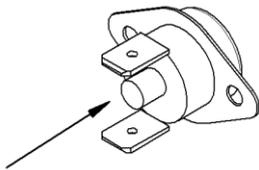

Figure 19 Safety thermostat
The safety thermostat (Figure 19) has to be reset manually:
3. Press small button on thermostat. See arrow Figure 19.